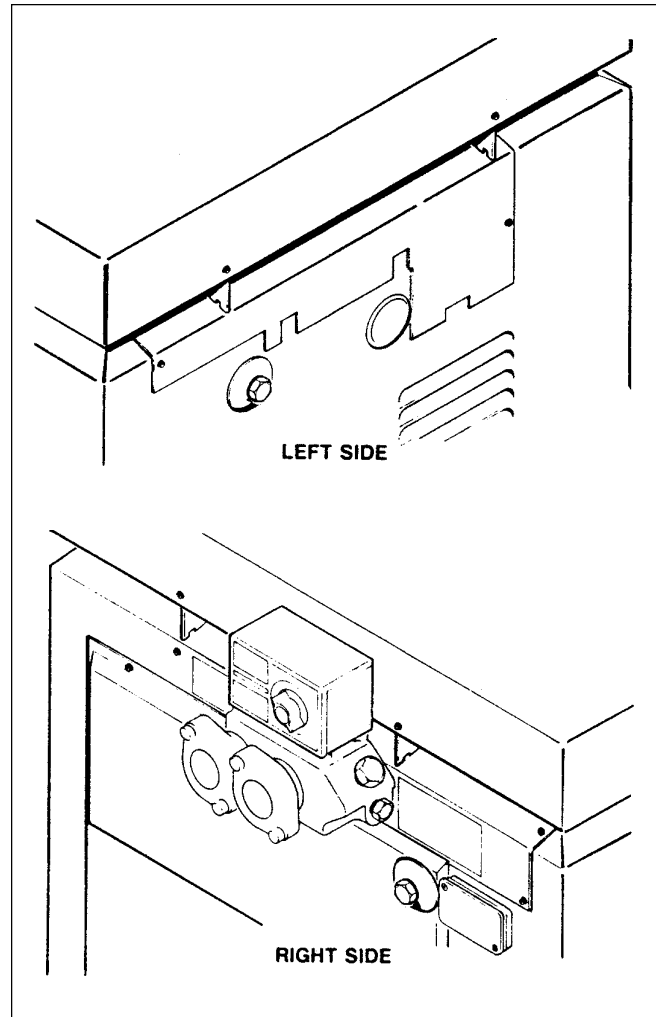

Figure 20. Heater Drains.
4. Remove both drain plugs from the heater. One is located on the right side of the inlet/outlet header (see Figure 20), The other is located on the left side of the heater in the return header. Completely drain the heater before the first frost.